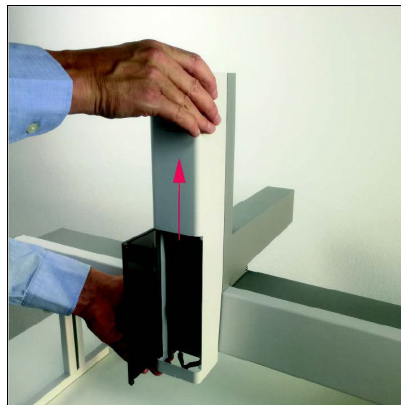

Figure 84: Front Tower Cover Displacement and Door
2. Before removing the tower front cover, it is necessary to open the tower door in a 90-degree angle. Keep the front door in this position while removing the front tower cover. See Figure 84.
3. Use two hands to push the front tower cover upwards. The required vertical displacement is approximately 4mm. Use gentle hand force to dislodge the front tower cover, as shown in Figure 84.